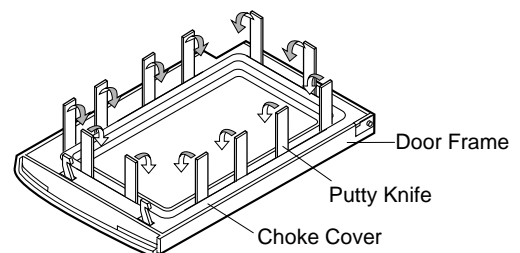

Figure C-4. Door Disassembly
3. Insert a putty knife (thickness of about 0.5mm) into the gap between the choke cover and door frame as shown in Figure C-4 to free engaging parts.
4. Pry the choke cover by inserting a putty knife as shown in Figure C-4.
7. Release two (2) pins of door panel from two (2) holes of upper and lower oven hinges by lifting up.